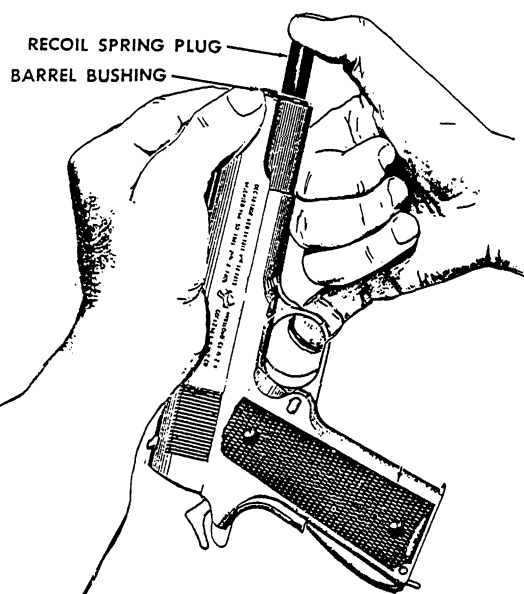

Figure 3-31.—Recoil spring plug removal from the recoil spring.
2. Press down on the recoil spring plug and turn the barrel bushing one-fourth turn clockwise, as shown in figure 3-31. Allow the recoil spring to expand slowly, under control, to prevent injury or loss of the part and remove the plug. Turn the recoil spring plug counterclockwise and remove it. Leave the recoil spring in place.
6. **RECOIL SPRING PLUG.** Push the slide frilly forward on the receiver and press the thumb safety lock upward to the SAFE position. Place the recoil spring plug on the recoil spring. Turn the recoil spring plug clockwise to lock the plug to the recoil spring. Holding the pistol, as shown in figure 3-31, insert the recoil spring and push downward on the recoil spring plug, compressing the spring until the plug is inside of the slide. Turn the barrel bushing counterclockwise to lock the recoil spring plug in place. Press the safety lock downward to the FIRE position and squeeze the trigger.